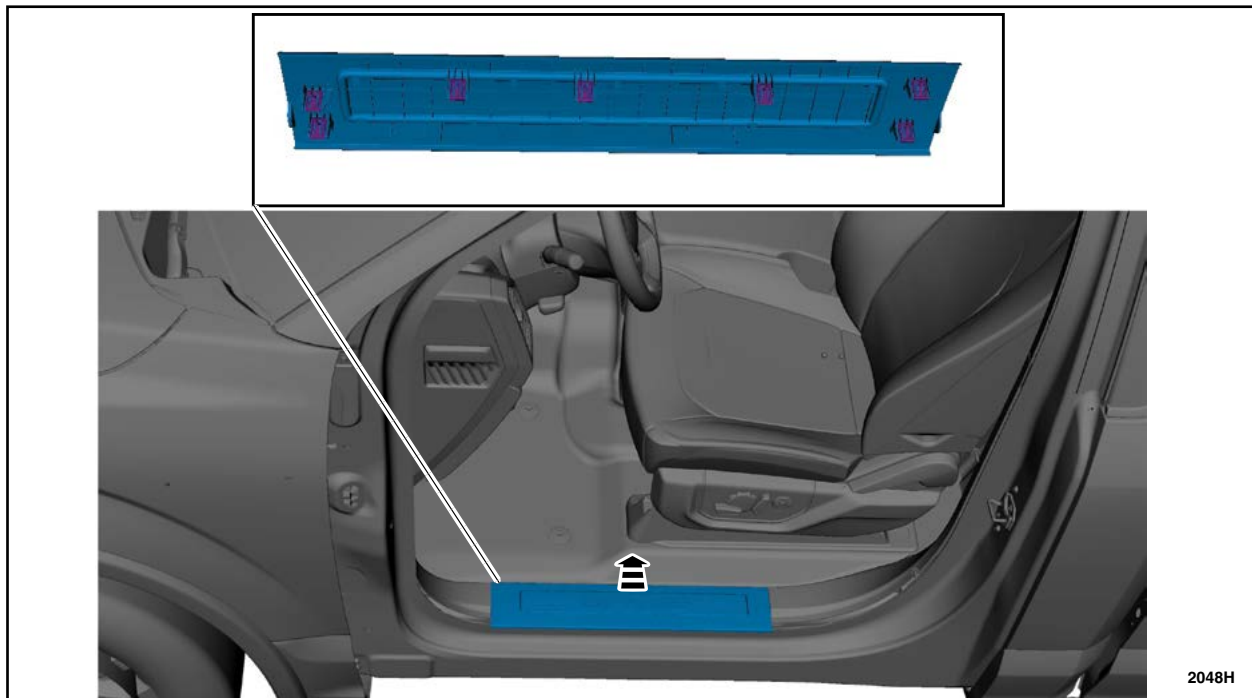

FIGURE 1
1. Release the clips and remove the front Left Hand (LH) side scuffplate trim panel. See Figure 1.
7. Install the front LH side scuffplate trim panel. See Figure 1.